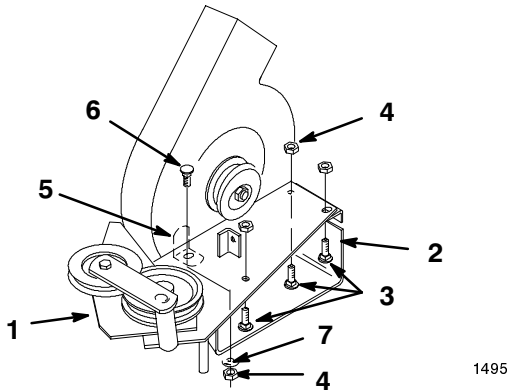

Figure 3
1. Remove the blower mounting plate from existing blower as shown in figure 3.